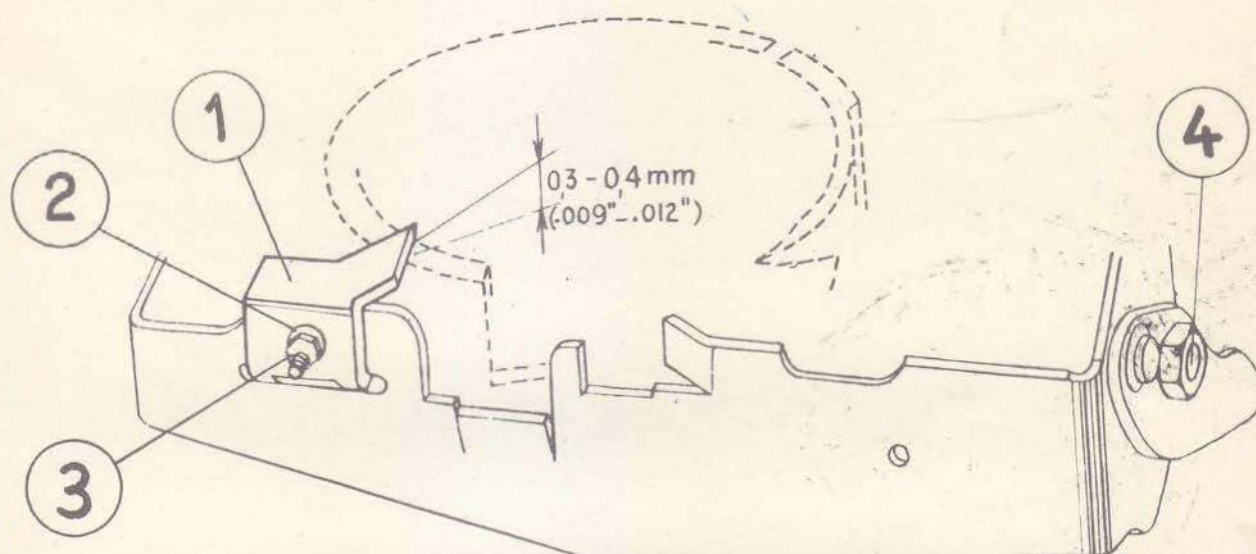

FIG. 18
16. ADJUSTMENT OF AUTOMATIC THREAD RELEASE (Free Thread Escapement Device) Figs. 18 - 19.